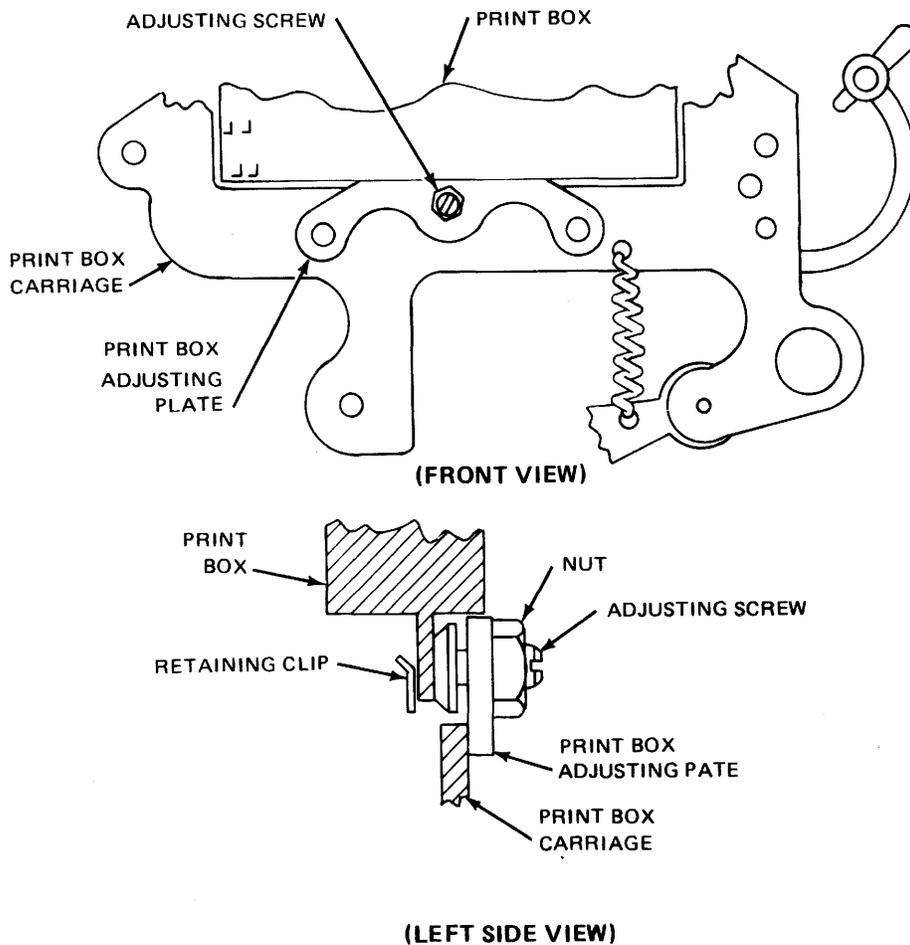

Figure 6-10. Print Box Alignment.
6-13. Keyboard Print Box Alignment. To align the keyboard print box, perform turn-on procedure (paragraph 6-6), see figure 6-10, and proceed as follows:
c. Loosen locknut while holding screw stationary (see figure 6-10).